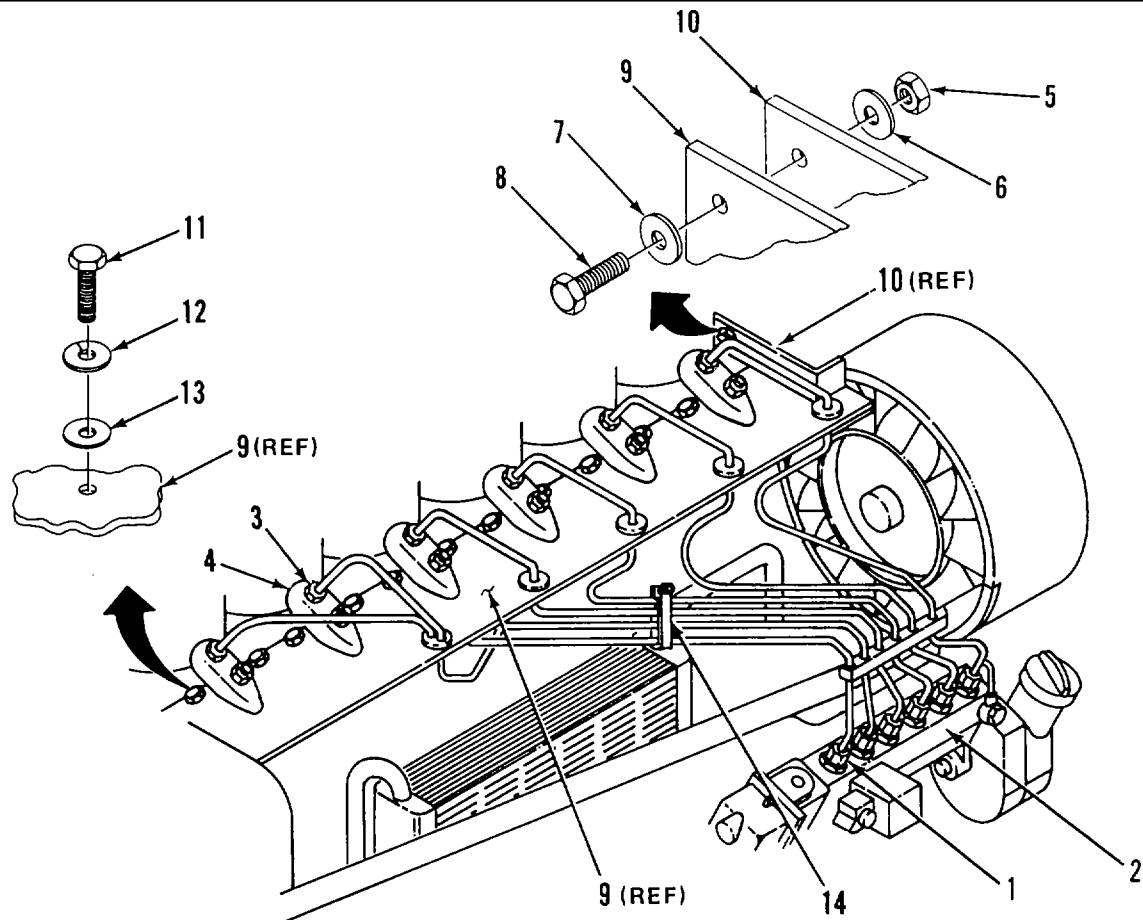

Figure 2-36. Fuel Injector Lines
(1) If all six fuel injection lines are to be removed, perform the following (Figure 2-36):
(1) If fuel injection lines were removed with cowling mounting plate, install all six fuel injection lines as follows (Figure 2-36):